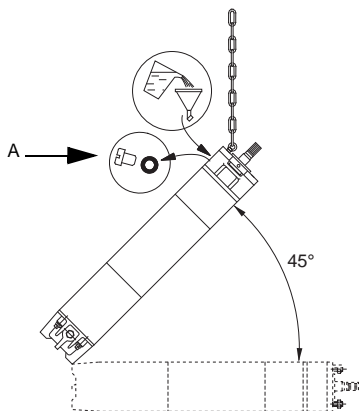

Fig. 3 Motor position during filling – MMS
1. Place the motor at a 45° angle with the top of the motor upwards, see fig. 3.